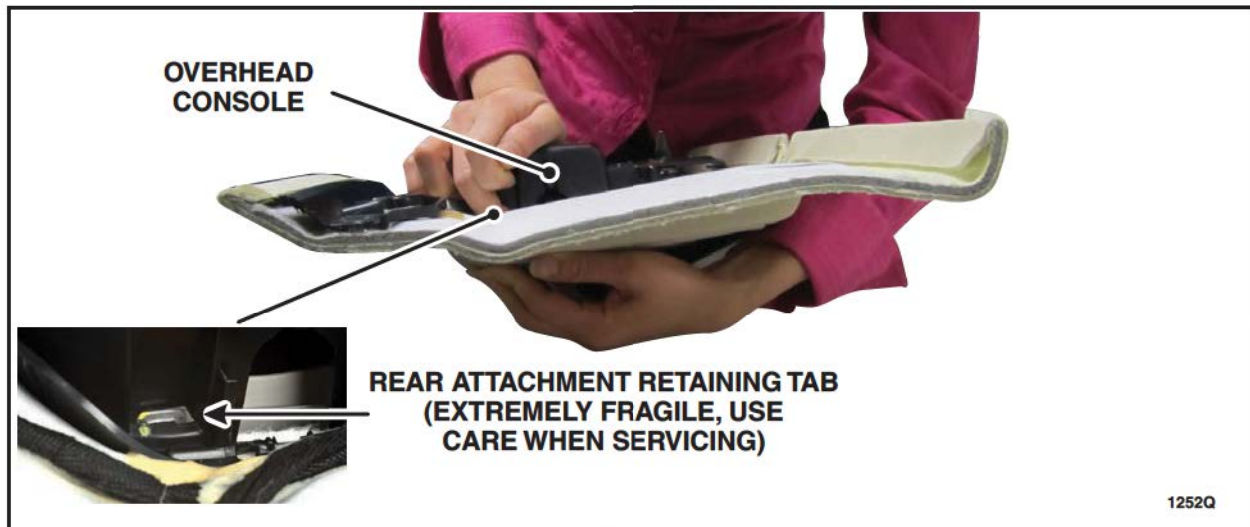

FIGURE 19a
2. **NOTICE:** Special care needs to be taken while removing the overhead console. The rear attachment retaining tabs are extremely fragile. See Figure 19a and 19b.
Remove the overhead console from the headliner. See Figure 19a and 19b (headliner cutaway view shown for clarity).